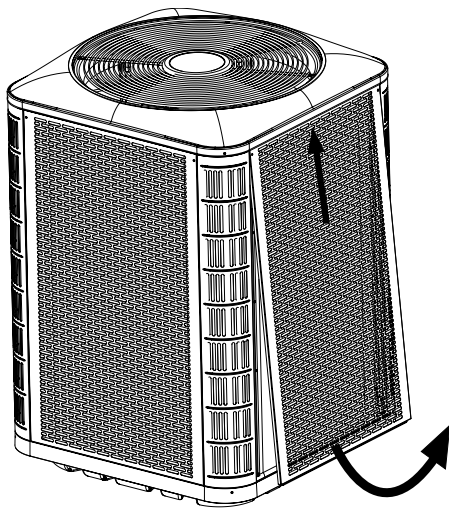
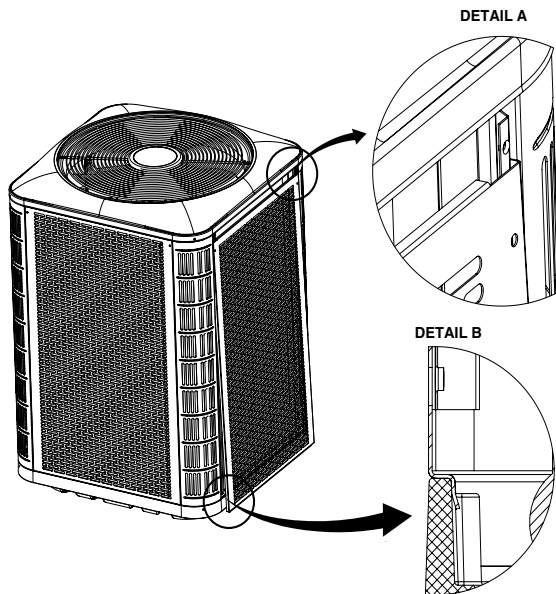

Figure 4. Panel Removal
Figure 5. Panel Installation
- To access the internal components of the unit, refer to Figure 4 for panel removal and Figure 5 for panel installation.
2. Slide the panel up towards the top pan in order to clear the bottom flange from the base pan. See Figure 4.
1. Insert the top corners of side panel flanges into the corner post channels as shown in Detail A in Figure 5.